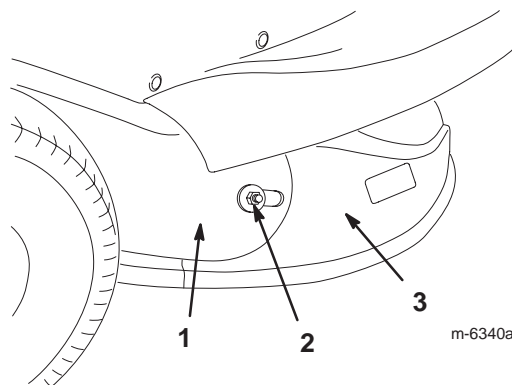

Figure 14
8. Remove the nut and outer washer that secure the discharge chute to the discharge tube (Fig. 14).
14. Install the nut and outer washer that secure the discharge chute to the discharge tube (Fig. 14).